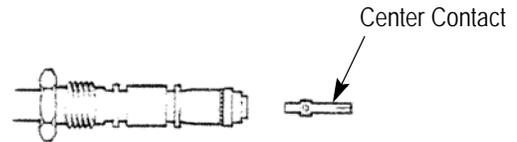

Figure 7
2. Fit the contact onto the center conductor until it butts against the rear insulator. Hold the cable and contact tightly together and solder. See Figure 7.